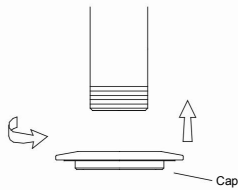

FIG. 27
- E-3.** Drive a cap on the pipe. (FIG. 27)